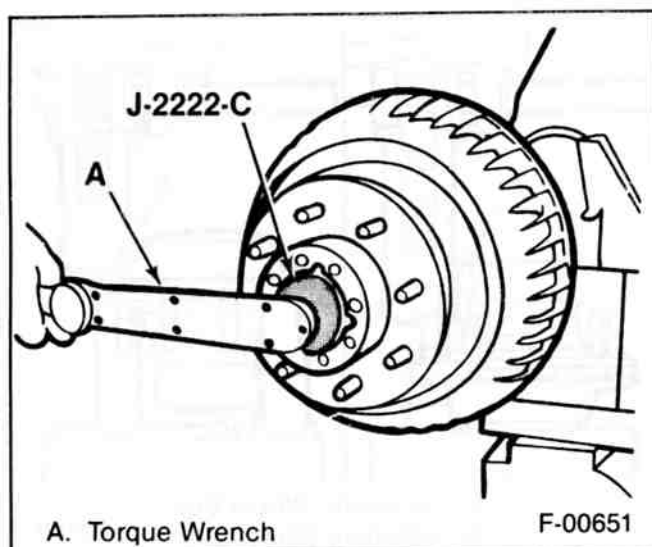

Figure 27—Tightening The Adjusting Nut
- Adjusting nut (42, 58) to 70 N·m (50 ft. lbs.) using J-2222-C (figures 27 and 28).